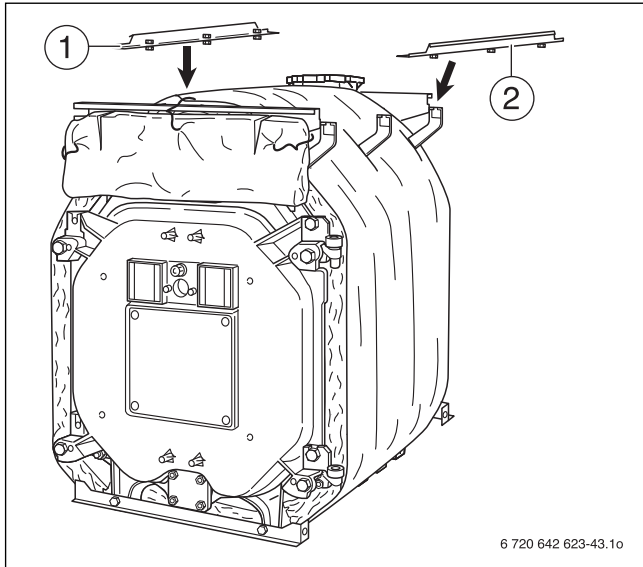

Fig. 45 Installing the longitudinal rails
- ▶ Push longitudinal rails (→ Fig. 45, [1 and 2]) with pre-fitted screws into the notches in the brackets, as previously described, and screw together.